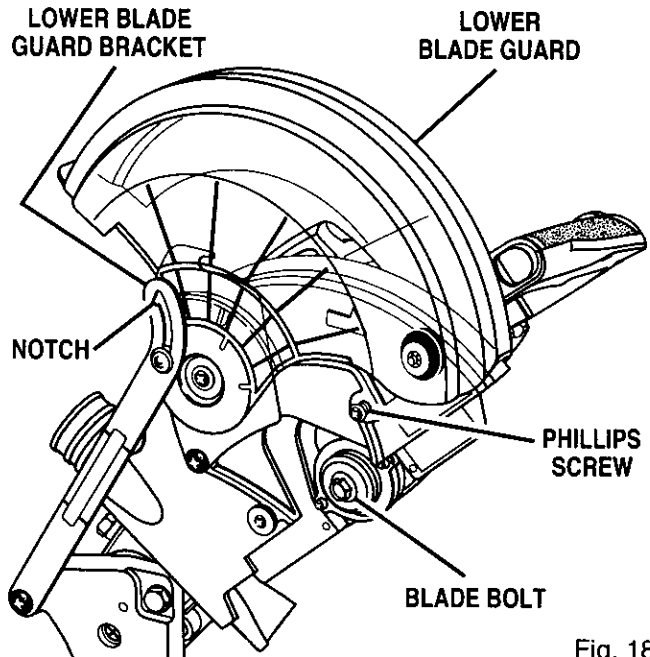

Fig. 18
■ Gently raise the lower blade guard bracket, releasing lower blade guard from notch so that lower blade guard and blade bolt cover can be rotated up and back to expose the blade bolt. See Figure 18.
- Gently raise the lower blade guard bracket, releasing lower blade guard from notch so that lower blade guard and blade bolt cover can be rotated up and back to expose the blade bolt. *See Figure 18.*